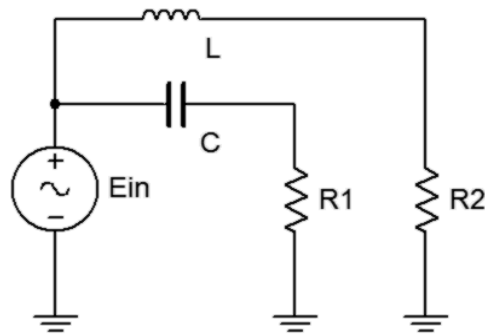

Figure 9.1
1. The circuit of Figure 9.1 can be thought of as a pair of frequency dependent voltage dividers.  $X_L$  increases with frequency, thus attenuating high frequency signals reaching R2. Similarly,  $X_C$  increases with a decrease in frequency, thus attenuating low frequency signals reaching R1. (R2 takes the place of the woofer while R1 takes the place of the tweeter). The crossover frequency is the frequency where  $R1=X_C$  and  $R2=X_L$  (normally the same frequency for both). Using  $C=250$  nF,  $L=100$  mH, and  $R1=R2=620$   $\Omega$ , determine the crossover frequencies and record in Table 9.1.
3. Build the circuit of figure 9.1 using  $R1=R2=620$   $\Omega$ ,  $L=100$  mH, and  $C=250$  nF. Place one probe across the generator and another across output one (R1). Set the generator to a 2 V p-p sine wave at 50 Hz. Make sure that the *Bandwidth Limit* of the oscilloscope is engaged for both channels. This will reduce the signal noise and make for more accurate readings.